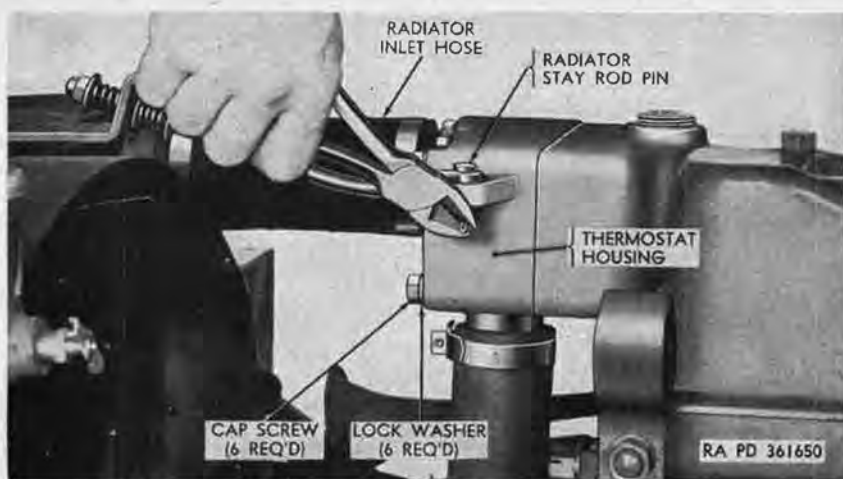

Figure 170. Removing radiator stay rod from thermostat housing.
(1) Drain cooling system (par. 134).
(2) Loosen rear clamp on radiator inlet hose (fig. 170).
- (3) Loosen upper clamp on by-pass hose (fig. 170).
- (4) Remove cotter pin and radiator stay rod pin (fig. 170) securing stay rod to thermostat housing, and remove stay rod.
- (5) Remove six cap screws (fig. 170) and lockwashers at front of thermostat housing, and remove housing from by-pass hose and from radiator inlet hose. Remove and discard thermostat-housing-to-water-outlet-header gasket.
- (2) Make sure that rubber seals are in place on the two thermostats and place thermostats in housing.
- (3) Slide outlet on front of thermostat housing (fig. 170) into rear of radiator inlet hose, slide outlet on bottom of thermostat housing into by-pass hose, position thermostat housing at front of water outlet header, and install six cap screws and lockwashers. Tighten cap screws.
- (4) Position rear end of radiator stay rod at bracket on left side of thermostat housing (fig. 170), and install radiator-stay-rod pin and cotter pin.
- (5) Tighten rear clamp on radiator inlet hose (fig. 170) and upper clamp on by-pass hose.
- (6) Fill cooling system (par. 134).